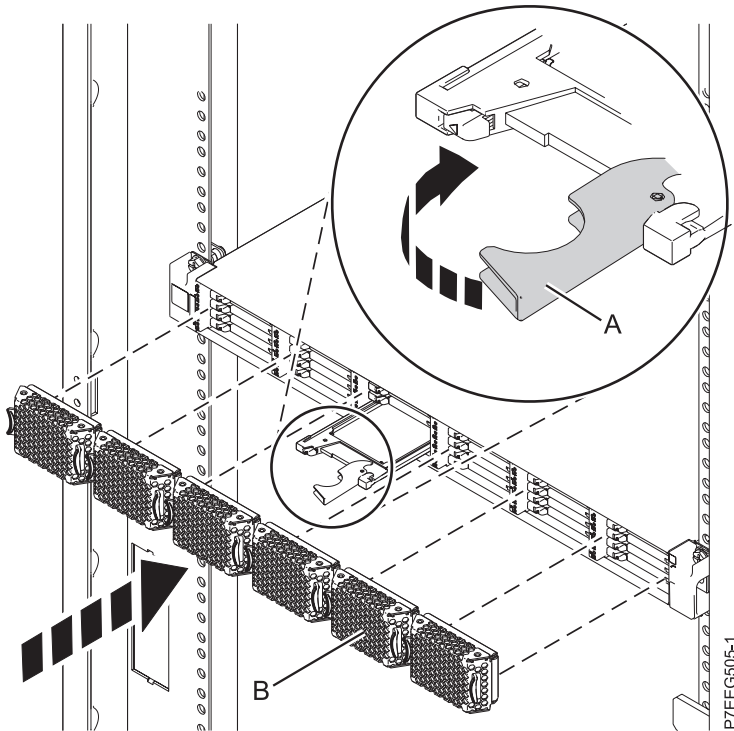

Figure 47. Replacing a solid-state drive in the 5888 PCIe storage enclosure.
4. When the solid-state drive identify LED flashes, slide the solid-state drive all the way into the 5888 PCIe storage enclosure until it is fully seated. Then rotate the handle (A) to the locked position. See Figure 47 on page 70.
5. Install the bezel (B).